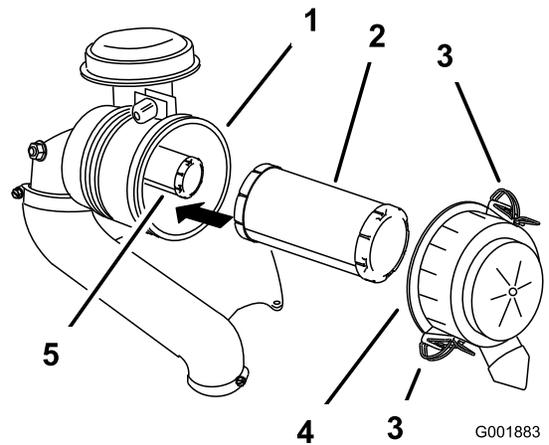

Figure 56
6. Release the latches on the air cleaner and pull the air-cleaner cover off the air-cleaner body (Figure 56).
8. Gently slide the primary filter out of the air-cleaner body (Figure 56).
2. If you are replacing the inner filter, carefully slide it into the filter body (Figure 56).
3. Carefully slide the primary filter over the safety filter (Figure 56).
4. Install the air-cleaner cover and secure the latches (Figure 56).